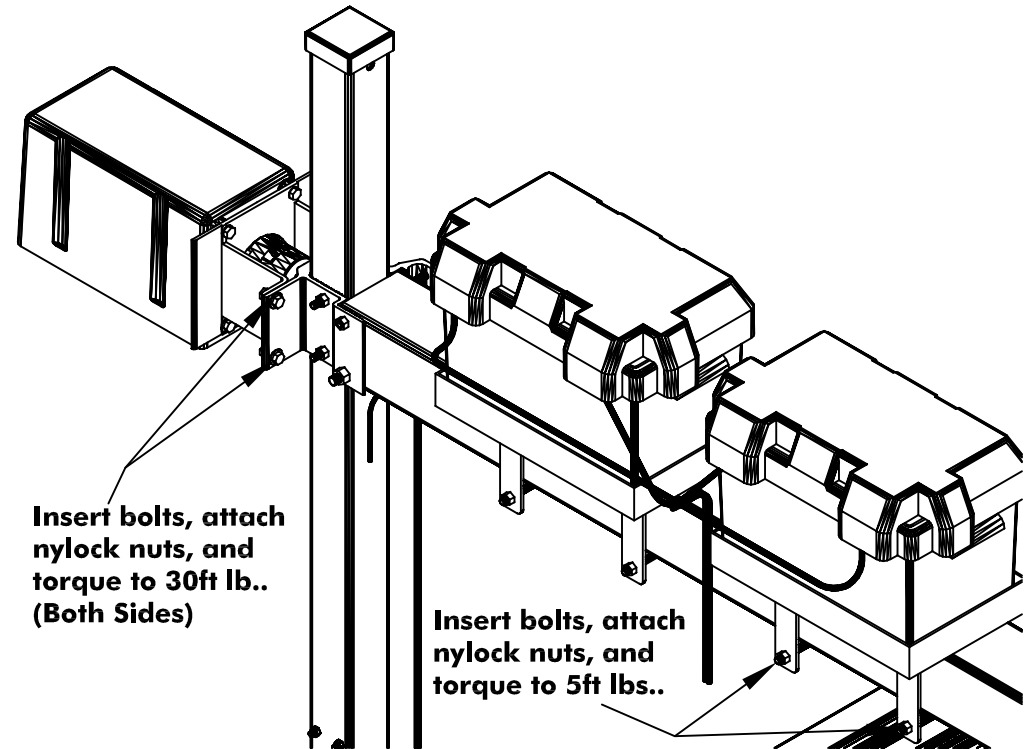

Fig. 1b
Step 4: Align the Love joy of the new drive unit with the Love joy of the ball screw making sure that the Hytrel spider is positioned between the two mating couplers. Fasten the drive unit with the saved nuts, bolts, and washers. Torque the bolts to 30 ft lb.. As shown in fig 1b.
Step 5: Position the additional battery tray on the ball screw tube as shown in fig 1b. and insert the two $\frac{3}{8}$ " X 5 $\frac{1}{2}$ " bolts and torque to 5 ft lb..